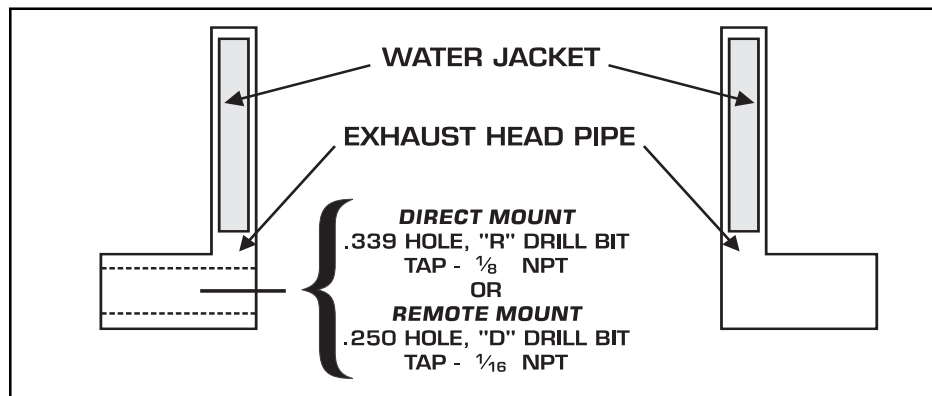

Figure 2 Recommended Mounting Location.
1. Locate a position on the exhaust's head pipe where a hole can be drilled and tapped without entering the water jacket (Figure 2). Normally, the best location to drill the hole is at the base of the head pipe where it attaches to the exhaust manifold. **Note:** Make sure the solenoid assembly can mount without interfering with other components.
1. Locate a position on the exhaust's head pipe where a hole can be drilled and tapped without entering the water jacket (Figure 2). Normally, the best location to drill the hole is at the base of the head pipe where it attaches to the exhaust manifold.